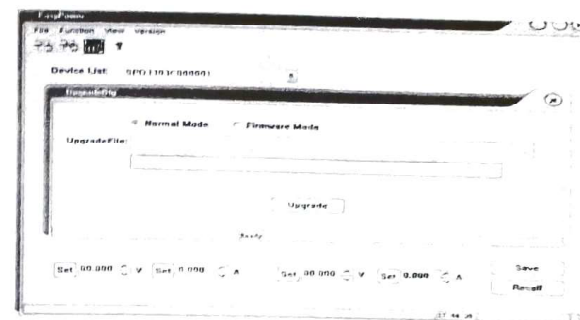

Figure 2
2. As shown in figure 2, select the "Firmware Mode" option instead and the following upgrading steps are the same as method 1.